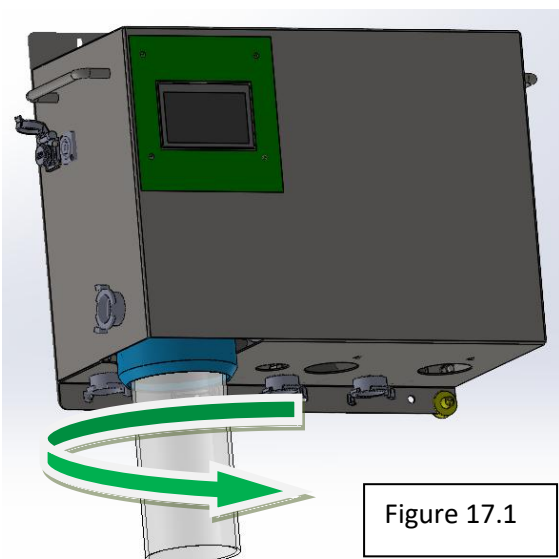

Figure 17.1
Step 4: Screw the new filter back onto the AutoHoofClean. The arrow in Figure 17.1 shows how to tighten the filter.